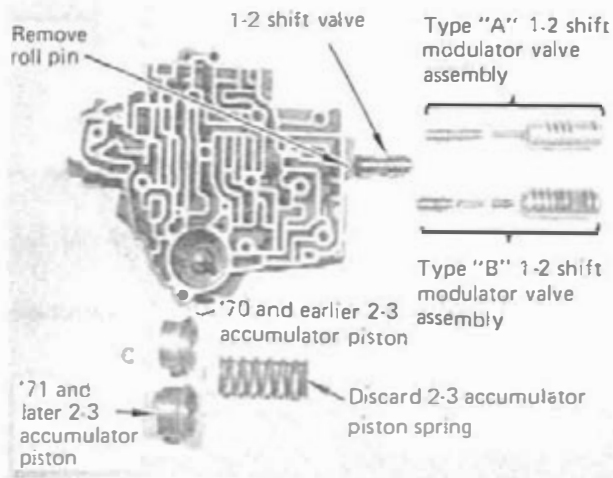
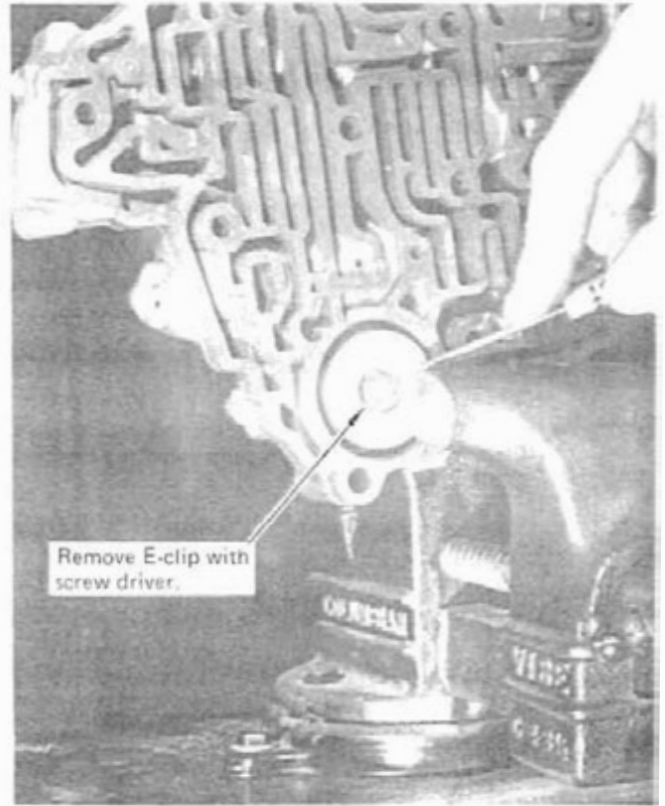

FIGURE 30
FIGURE 32
STEP 1. Place the valve body on the bench with the channel side up. Remove the roll pin holding the 1-2 shift modulator valve sleeve in place. (See Fig. 30) Remove the sleeve carefully. This may require a little prying with a small screwdriver. Try not to raise any burrs during removal. Also remove the 1-2 shift valve at the bottom of the bore.
Install the 1-2 shift valve into the bore with the smallest diameter pointing out. (See fig. 30) Reinstall the 1-2 shift
STEP 2. Very carefully clamp the valve body in a vise with smooth jaws and compress the accumulator enough to remove the E-clip with a screwdriver. (See Fig. 32) Open the vise slowly and remove the valve body. Remove and discard the accumulator spring underneath the piston. Install the piston as removed. (See Fig. 30) Install the E-clip.